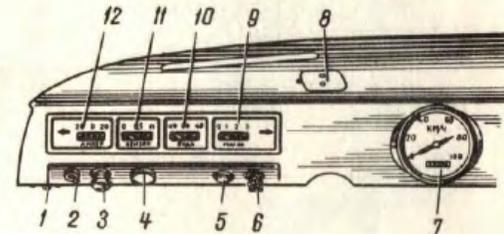

Fig.7. Fascia:
The fascia mounts the following equipment (Fig.7):
5. Remove lid 8 (Fig.7) and check fluid level in the brake master cylinder.